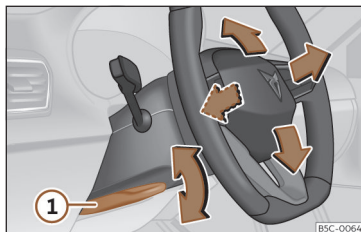

Fig. 8 Lever in the lower left side of the steering column.
- Pull the **Fig. 8 1** lever down, move the steering wheel to the desired position and lift the lever back up until it locks.
- After adjusting the steering column, push the lever **Fig. 8 1** firmly upwards to ensure the steering wheel does not accidentally change position while driving.